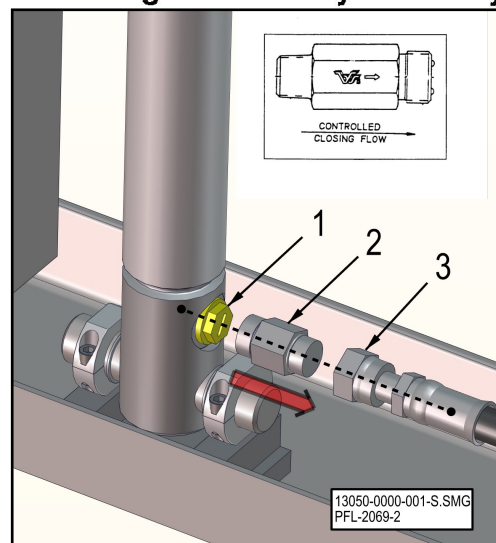

Figure 12
2. Mount the cylinder. For proper installation, from the front of the lift, the supply port will be on the left side and the tapped block will be on the right side. Make sure this is correct before proceeding. Mount the bottom of the cylinder to the column weldment clevis. See Figures 12 and 13.